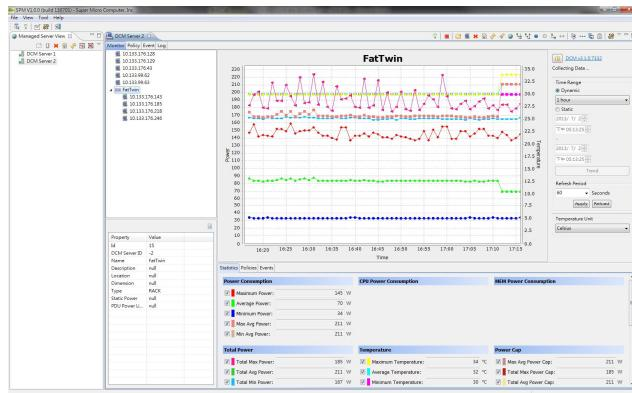

Figure 3: SPM Dashboard
3. Providing statistical information on power parameters on single dashboard as shown in Figure 3.